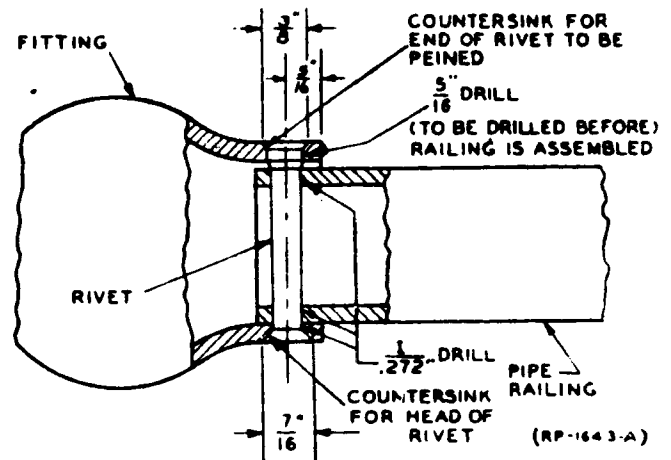

FIG. 3 SIZES OF RIVET HOLES IN RAILS AND FITTINGS (PARS. 9.1, 9.4)
9.1 Drill and countersink the 5/16" rivet hole in the reamed end of fittings before the associated rails are in place. See Figure 3.
9.4 Drill and countersink the .272" rivet holes in the reamed ends of the fittings after all rails are in place, and rivet the unthreaded ends in the fittings. See Figure 3.